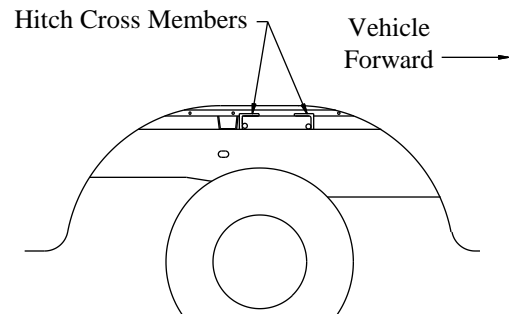

Figure 3
3. Slide the hitch cross members half way through the notches or bends in the sheet metal flange and place 5/8 carriage bolts from the Hide-A-Goose hitch fastener kit into the long slots from underneath the vehicle. Slide the hitch cross members above both vehicle frame rails and align hitch cross members as shown in Figure 3.